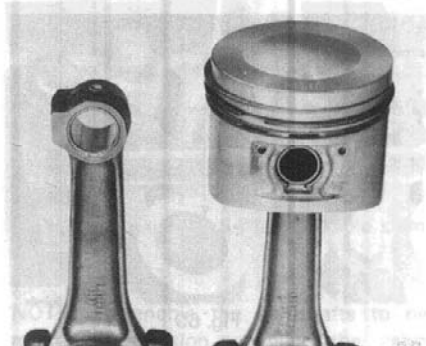

Fig. 76
**NOTE:** Ensure that the piston is fitted correctly to the connecting rod (Fig. 76).